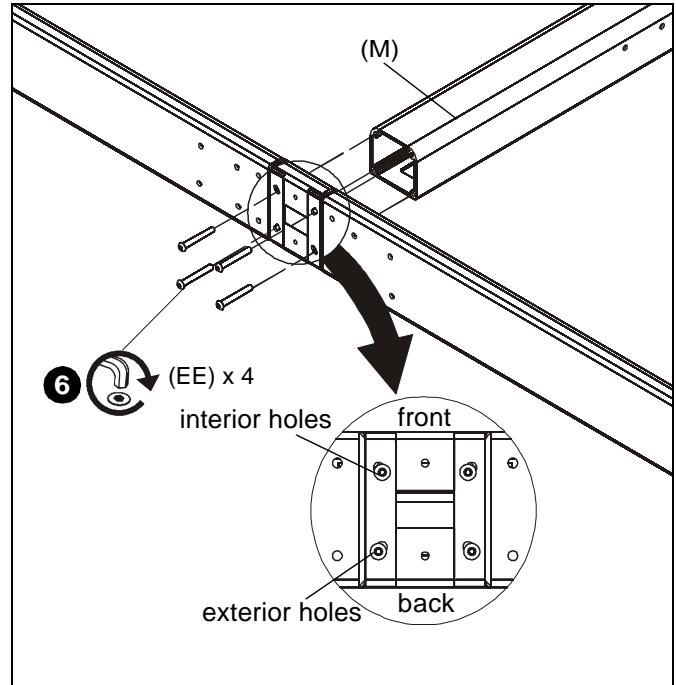

Figure 5
- While holding extender blocks in position, install four 5/16-18 x 2 1/2" button head cap screws (EE) through extender brackets (W), extender blocks (U) and into remaining cart array column (M). (See Figure 5)
**IMPORTANT ! :** Be sure to use interior holes when connecting to the front of the column and exterior holes when connecting to back of column. (See Inset on Figure 5)